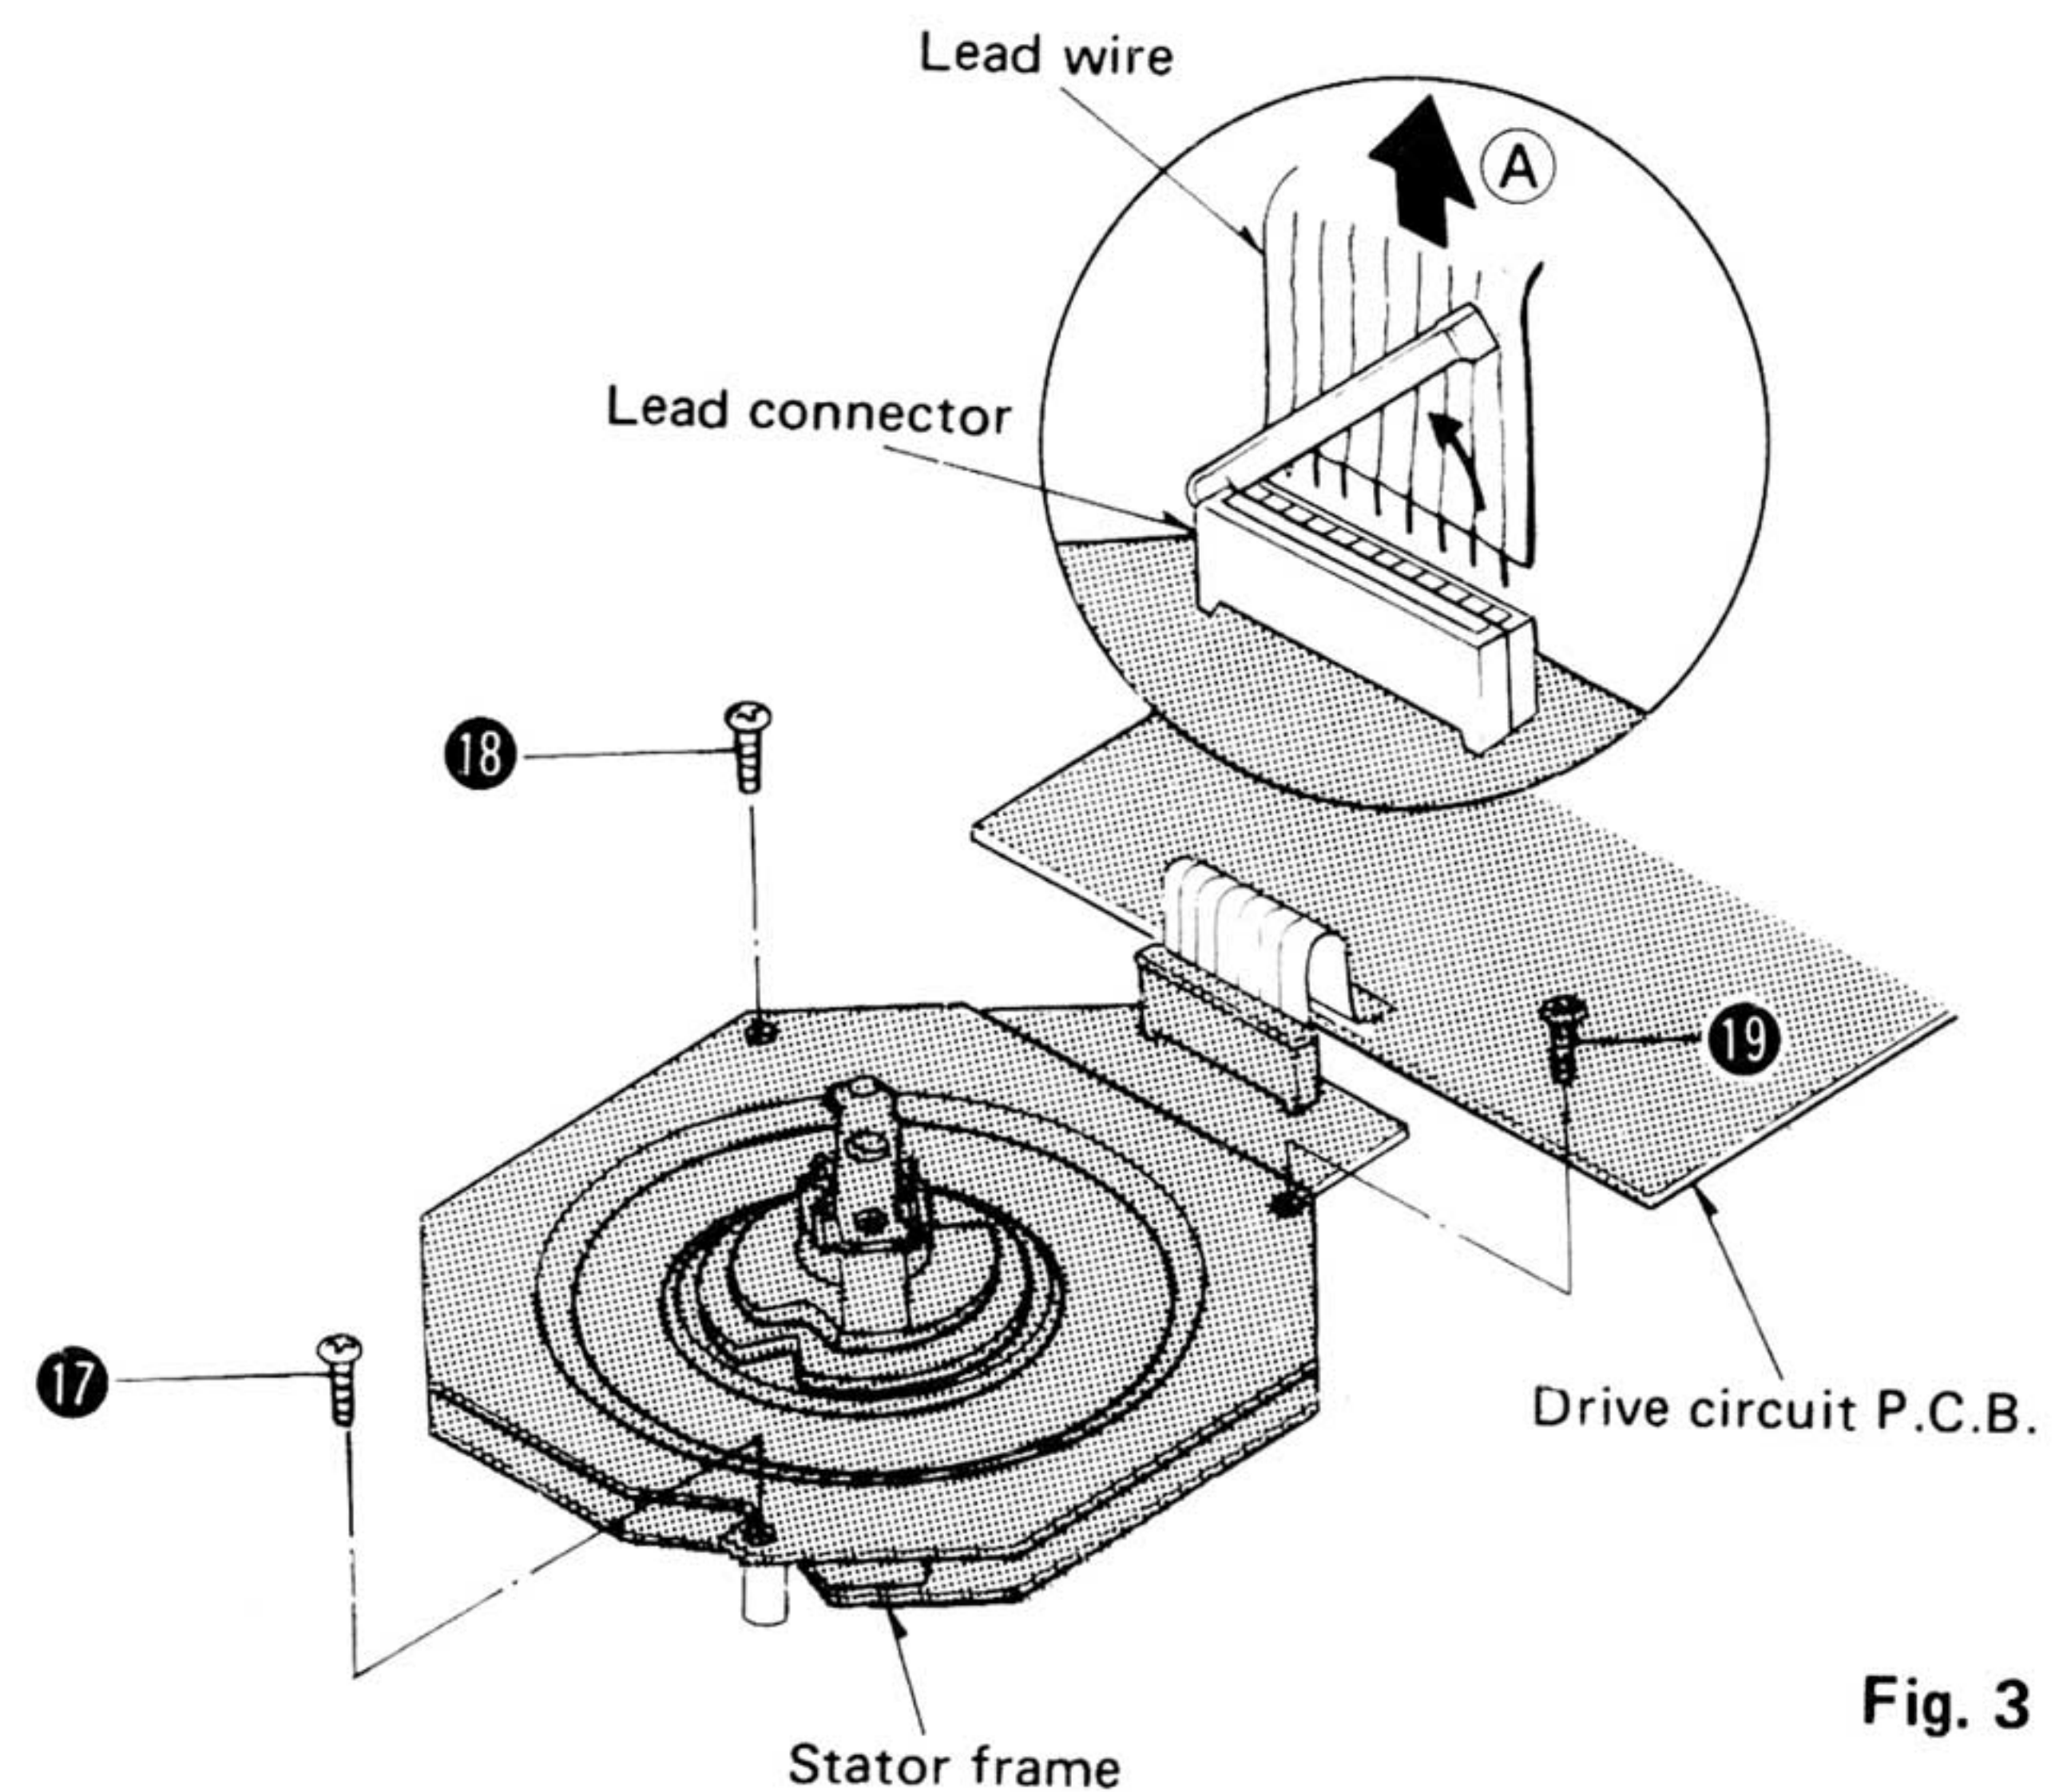

Fig. 3
2. Open the "lead holder" of the lead connector and pull out the lead wire of the arrow (A) in Fig. 3.
3. Remove the stator frame setscrews ⑰ ~ ⑲. Then the stator frame can be removed. (See Fig. 3)